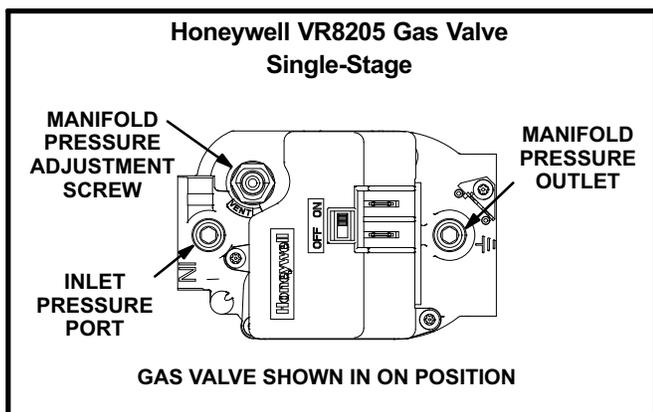

FIGURE 17
Gas Valve Operation (figure 17 and 18)
- 5- *Honeywell VR8205 Gas Valve* - Switch gas valve lever to **OFF**. See figure 17.
- 6- Wait five (5) minutes to clear out any gas. If you then smell gas, **STOP!** Immediately call your gas supplier from a neighbor's phone. Follow the gas supplier's instructions. If you do not smell gas, go to the next step.
- 7- *Honeywell VR8205 Gas Valve* - Switch gas valve lever to **ON**. See figure 17.